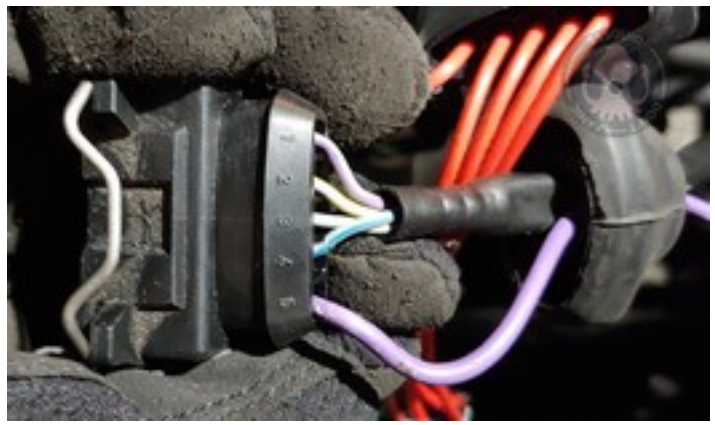

Figure 1
- Find the VAM harness connection. Pull back the rubber weather protection to expose the harness connection and wires. Feed the supplied 12v supply wire through the large opening toward the small opening. It may help to use a screwdriver or wire-feeder to help the wire through the tighter end of the rubber protector (see fig. 1).